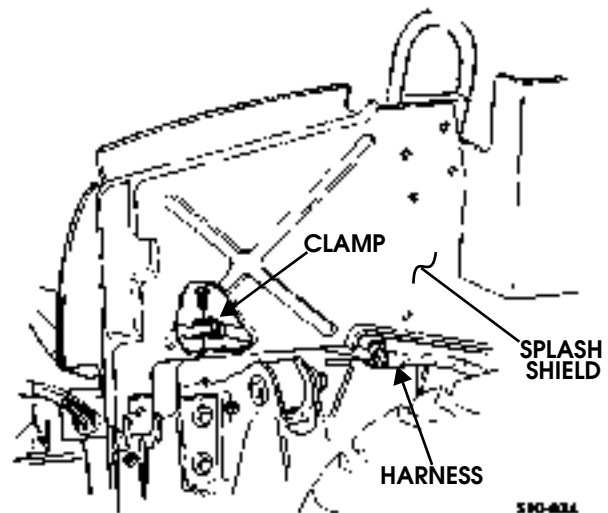

Figure 10-100: Wiring Harness Clamp Location
7. Remove nut and lockwasher assembly and screw securing harness and clamp to splash shield (Figure 10-100).
2. Secure harness and clamp to splash shield with screw and nut and lockwasher assembly (Figure 10-100).